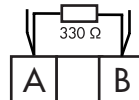

Fig. 5-8: Electrical connection
- Connect the wiring as shown in Fig. 5-8 and depending on the application being used (see Fig. 5-9 to Fig. 5-14).
- 4. Connect the wiring as shown in Fig. 5-8.